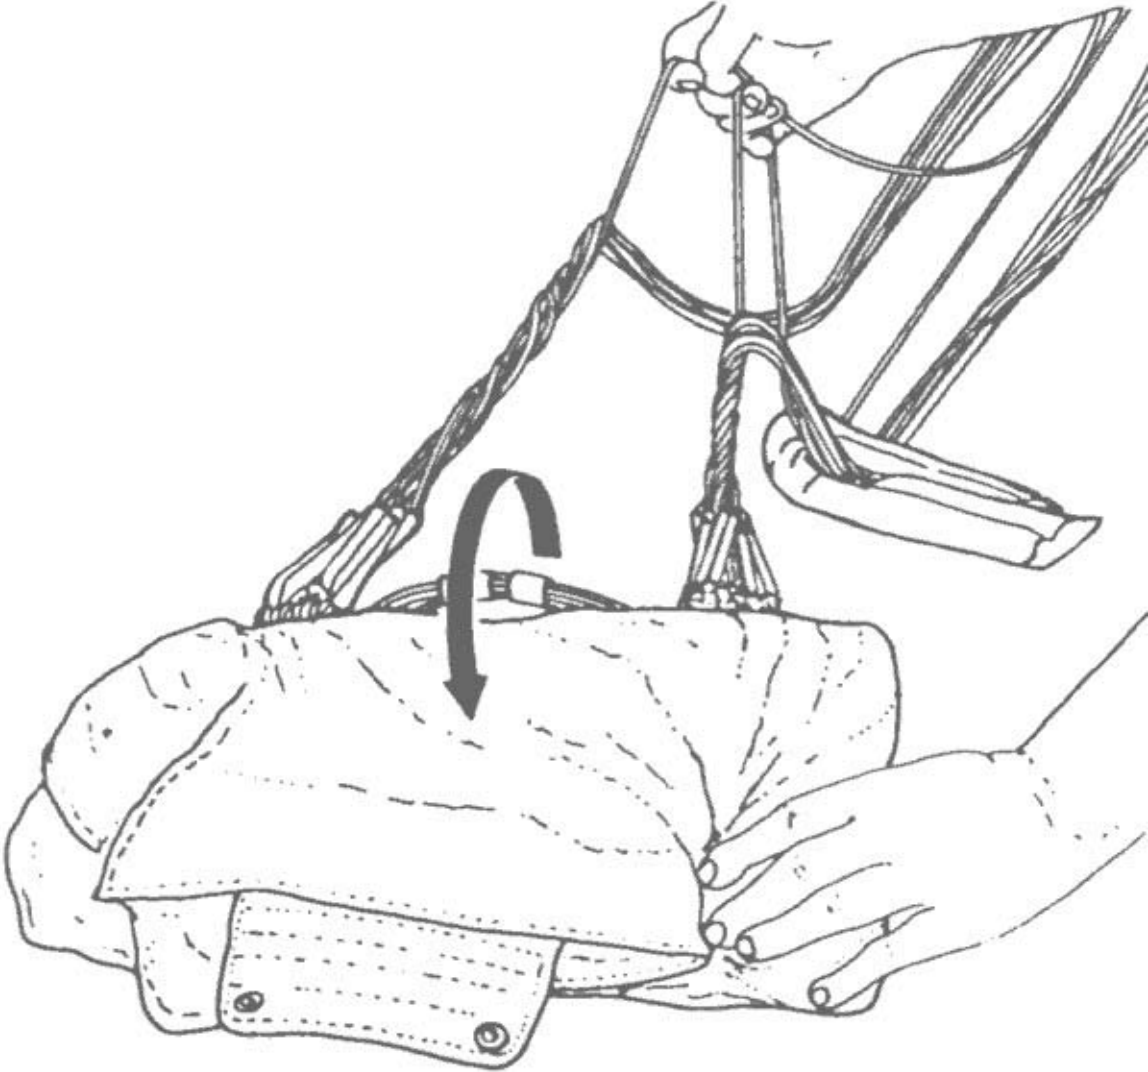

Figure 3-8
- f. Remove any turns, tangles, or twists; place the suspension lines in their proper layout. (See Figure 3-8)